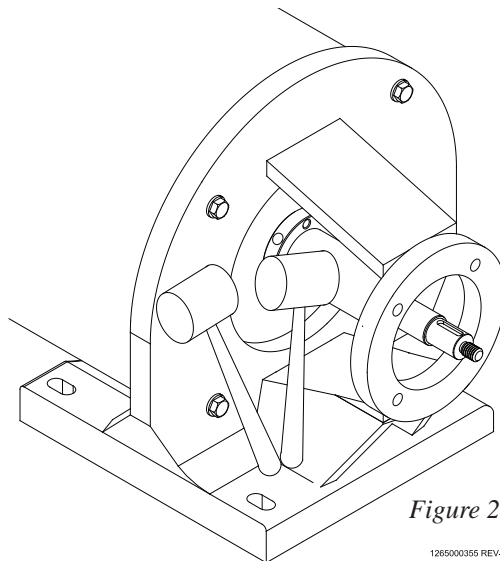

Figure 24
- a) To set the gap, place the original housing shim, if supplied, with the pump and the pump housing (less the stationary seal) on the flange support (2).
- c) Slide the front seal driver (or seal drive spacer) onto the pump shaft (7).
- d) Install the impeller key (8), impeller (22) and impeller nut (23). Tighten the impeller nut while holding onto the impeller blades.
g) *Align the slot of the shaft collar (6) directly over one of the slots on the shaft (Figure 24).*